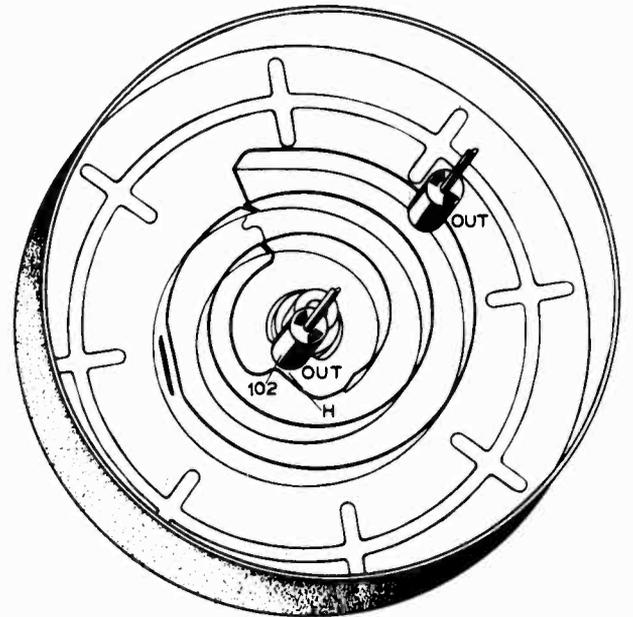
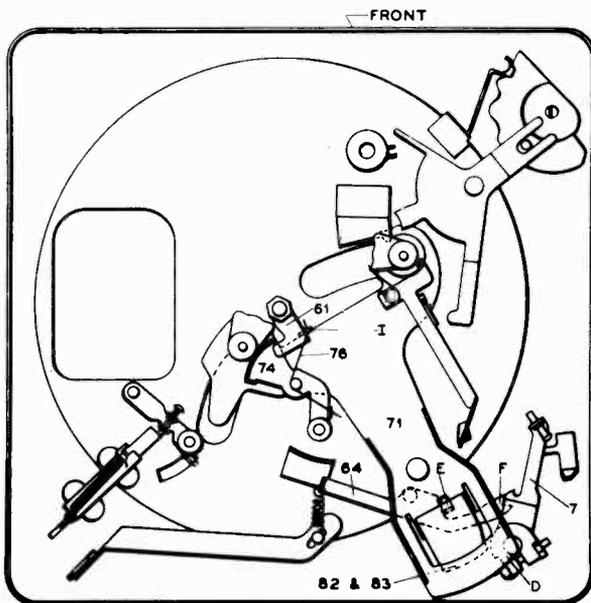

FIG. 4A
FIG. 4B
As the swing arm (71) starts back to its original position, the ejector mechanism returns to its' original position. The pickup arm is being moved into position to land on the record through the action of the ratchet arm friction springs (82 and 83) Fig. 4B, on the ratchet arm (7) Fig. 4B.
As explained in a previous paragraph, the ratchet arm lever (64) Fig. 4B has been moved up so as to stop the ratchet arm (7) Fig. 4B at the proper position for the pickup arm to land on the record. As the swing arm (71) Fig. 4B nears the end of its' return swing Point I of the swing arm engages
the friction brake spring (61) Fig. 4B. This insures smooth lowering of the pickup arm and also tends to hold the swing arm (71) Fig. 4B in the same position while a record is being played. As soon as the adjusting plunger pin (21) Fig. 4C starts down the cammed end Point D Fig. 4B of the swing arm (71) Fig. 4B the ratchet arm friction springs (82 and 83) Fig. 4B disengage from the ratchet arm (7) Fig. 4B. Point F of the ratchet arm lever (64) Fig. 4B is forced away from the ratchet arm (7) Fig. 4B by Point E on the swing arm (71) Fig. 4B.
The pickup arm (14) Fig. 4 also Fig. 4C is lowered on the record and then Point H of the spiral cam Fig. 4A forces the lower or return roller (102) Fig. 4A also Fig. 4C out of the spiral cam. Through the action of the tension spring (76) Fig. 4B the cammed dropping lever (74) Fig. 4B also Fig. 4C is moved into position over the bearing pin shoulder nut (103) Fig. 4C thereby keeping the lower or return roller (102) Fig. 4C out of the spiral cam. Thus the pickup arm can continue across the record.